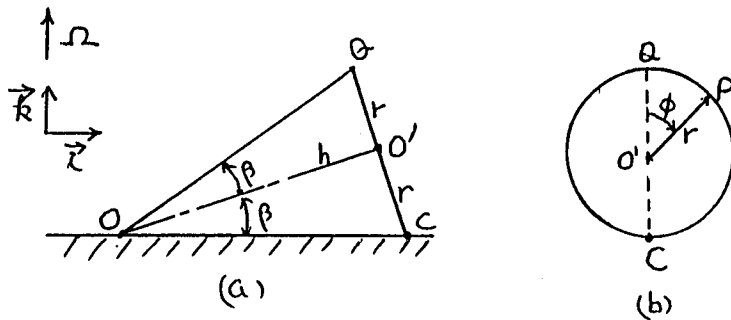

Fig 1. A rolling cone (a) side view (b) View of base.
- (20 %) A cone of semivertex angle β rolls without slipping on a plane floor (Fig. 1). Let Ω be the constant precession rate of the cone about a vertical axis through its vertex O . Find the velocity and acceleration of a point P on the circumference of its base in terms of r, Ω, β, ϕ .